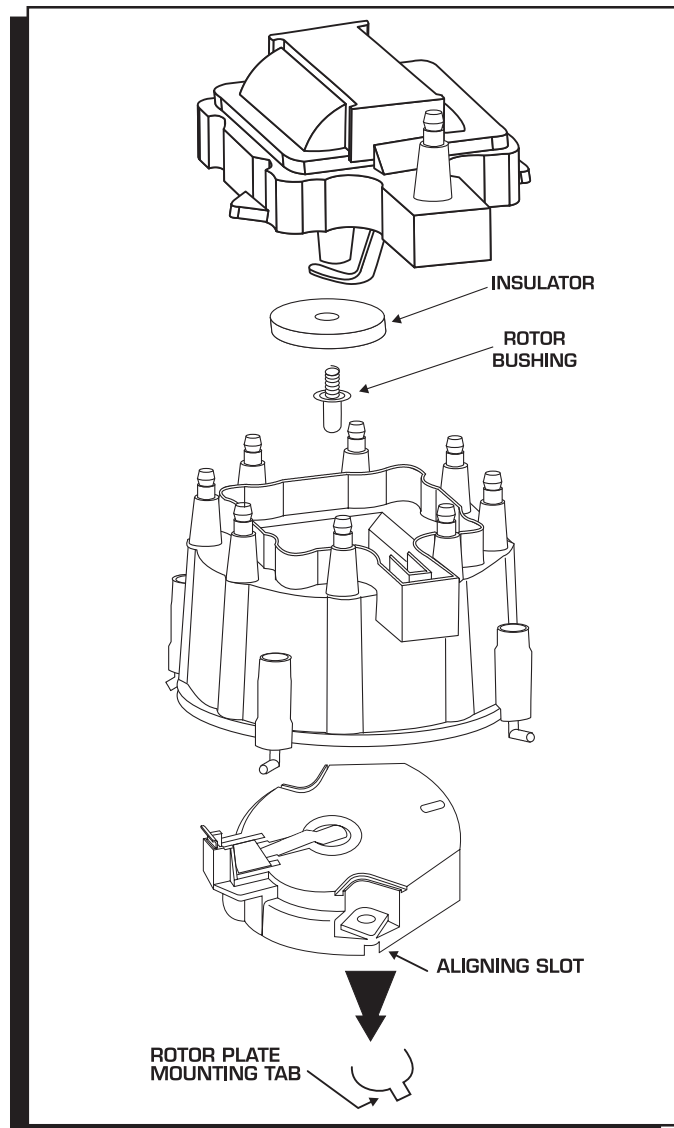

Figure 3 Installing the Modified Dust Cover.
4. Inspect the rotor bushing for wear and replace if necessary. Make sure the rubber bushing remains in place and install the Modified Dust Cover using the original hardware. Note that the brass terminal must make contact with the rotor bushing (Figure 3).